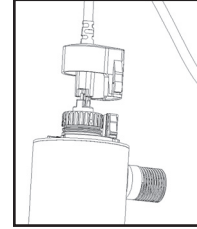

FIGURE 2A
- Disconnect main power source and allow the unit to power down. Remove the lamp connector by squeezing the plastic locking tabs on the side of the connector. Remove connector and lamp from the reactor chamber and lamp connector base. Separate the lamp from the connector (Figure 2A). Do not twist the lamp from the connector, simply slide the two apart. Avoid touching the lamp on the glass portion. Handling the lamp at the ceramic ends is acceptable, however if you must touch the lamp glass, please use gloves, or a soft cloth. Fully remove the lamp from the reactor chamber being careful not to angle the lamp as it is removed from the chamber. If the lamp is removed on an angle, pressure will be applied on the inside of the quartz sleeve, causing the sleeve to fracture.